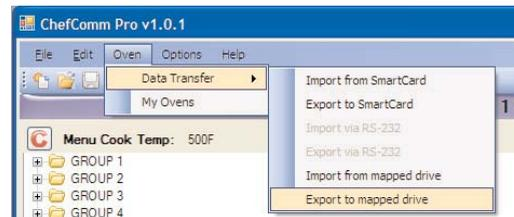

Figure 37: Export to Mapped Drive
3. Select **Oven > Data Transfer > Export to Mapped Drive** (Figure 37).